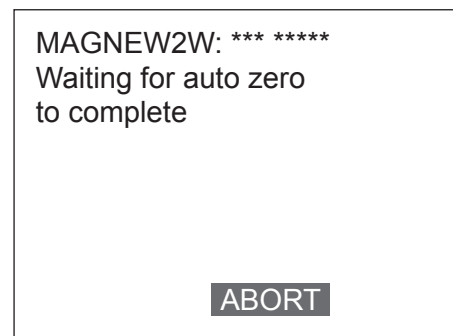

Figure 7-12
3. When F4 (OK) is pressed, Figure 7-12 will be displayed and starts adjusting the zero point. By pressing F3 (ABORT) the procedure is canceled.